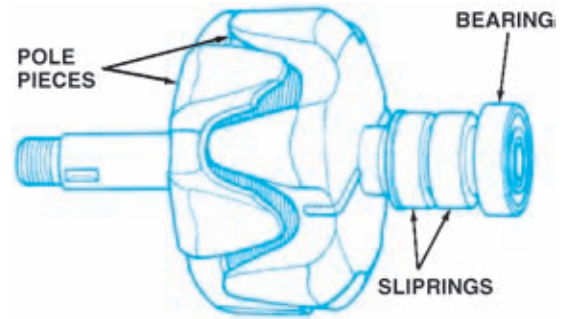

Figure 8-9. Rotor. (DaimlerChrysler Corporation)
The **rotor** carries the magnetic field. Unlike a DC generator, which usually has only two magnetic poles, the AC generator rotor has several north (N) and south (S) poles. This increases the number of flux lines within the AC generator and increases the voltage output. A typical automotive rotor (Figure 8-9) has 12 poles: 6 N and 6 S. The rotor consists of two steel rotor halves, or pole pieces,